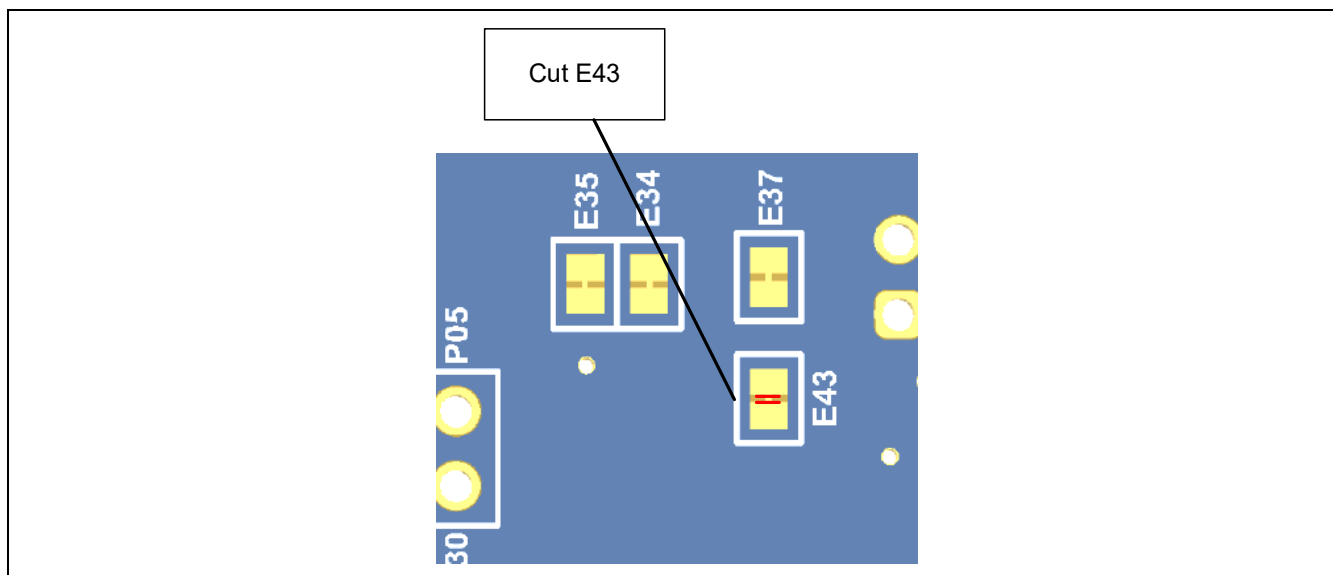

Figure 5-7 Position of Jumper Trace Cut E43 (Bottom Side)
4. If power is supplied to this board from a source other than USB, cut Jumper Trace Cut E43 (see Figure 5-7).
If you intend to use this board without connecting a USB connector, cut Jumper Trace Cut E43. Figure 5-7 shows the position of the Jumper Trace Cut.